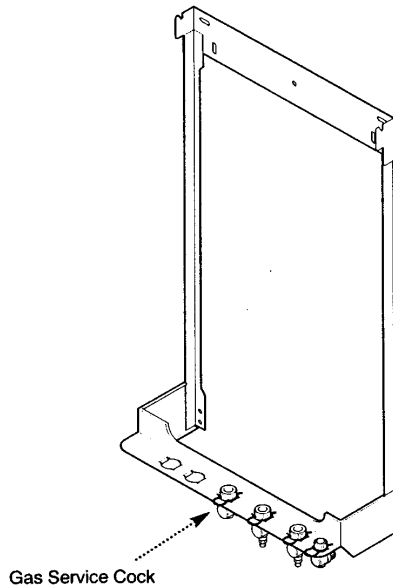

Fig. 15
2. The connection to the appliance is a 22mm copper tail located at the rear of the gas service cock (Fig. 15).